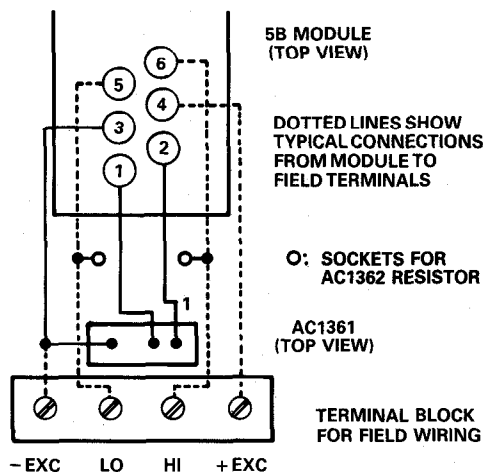

Figure 4.3. AC1361 Connection
- Connection of the AC1361 to the associated module will not affect the operation of any non-thermocouple module in any way (see Figure 4.3).